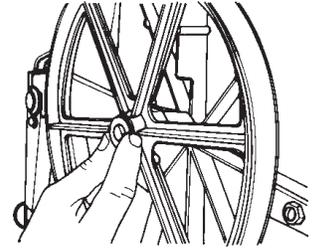

Fig. 2
- b. Remove and save the washer. (See Figure 2.)